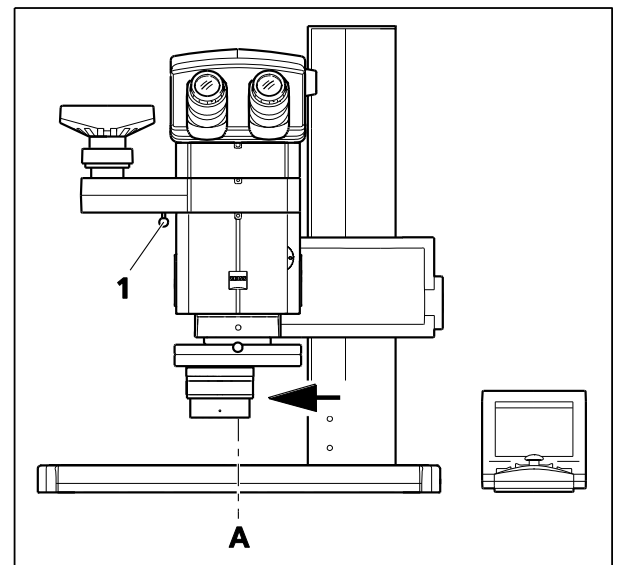

Fig. 37 Objective slider S/doc with intermediate phototube
for vertical and monocular imaging, via the left light path, of a specimen detail 12 mm to the left from position **A** (Fig. 37).
- Push the sliding knob (Fig. 37/1) to the front stop position to deflect the light ray to the camera port.